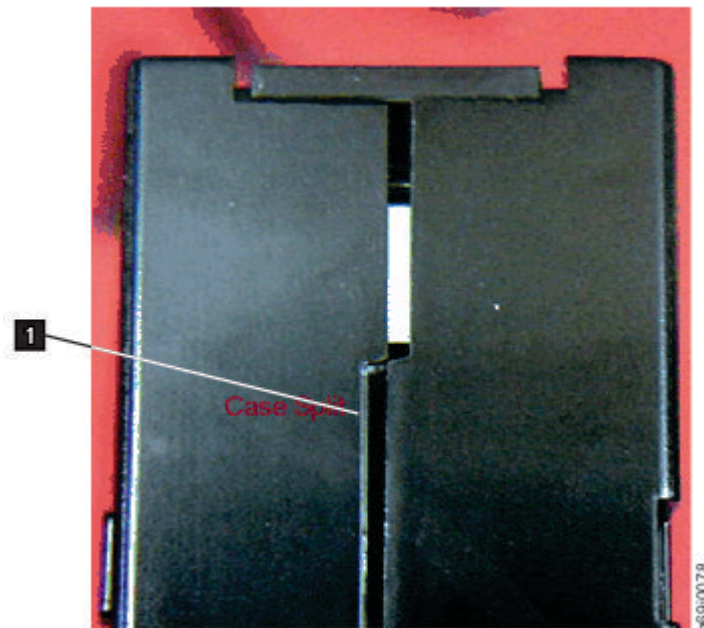
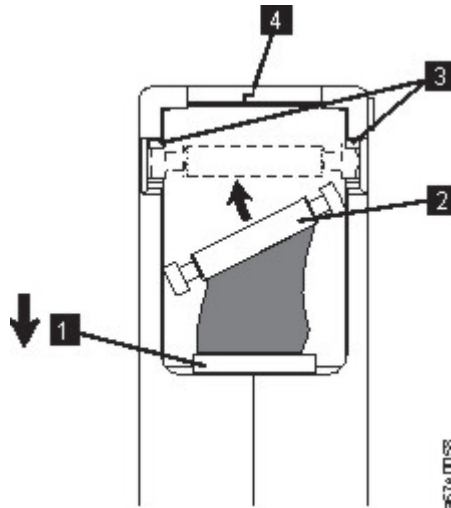

Figure 92. Checking for gaps in the seams of a cartridge
Figure 94. Placing the dislodged leader pin into the correct position
- Inspect the rear of the cartridge (the part that loads first into the tape load compartment) and ensure that no gaps appear in the seam of the cartridge case. See **1** in Figure 92 on page 165 and **4** in Figure 94 on page 167. If gaps appear in the seam (see Figure 92 on page 165), the leader pin might be dislodged. Go to “Repositioning or reattaching a leader pin” on page 166.
Split cartridge case. See Figure 92 on page 165.
1. Slide open the cartridge door (1 in Figure 94 on page 167) and locate the leader pin (2) (you might need to shake the cartridge gently to roll the pin toward the door).
2. With plastic or blunt-end tweezers, grasp the leader pin and position it in the pin-retaining spring clips (3).